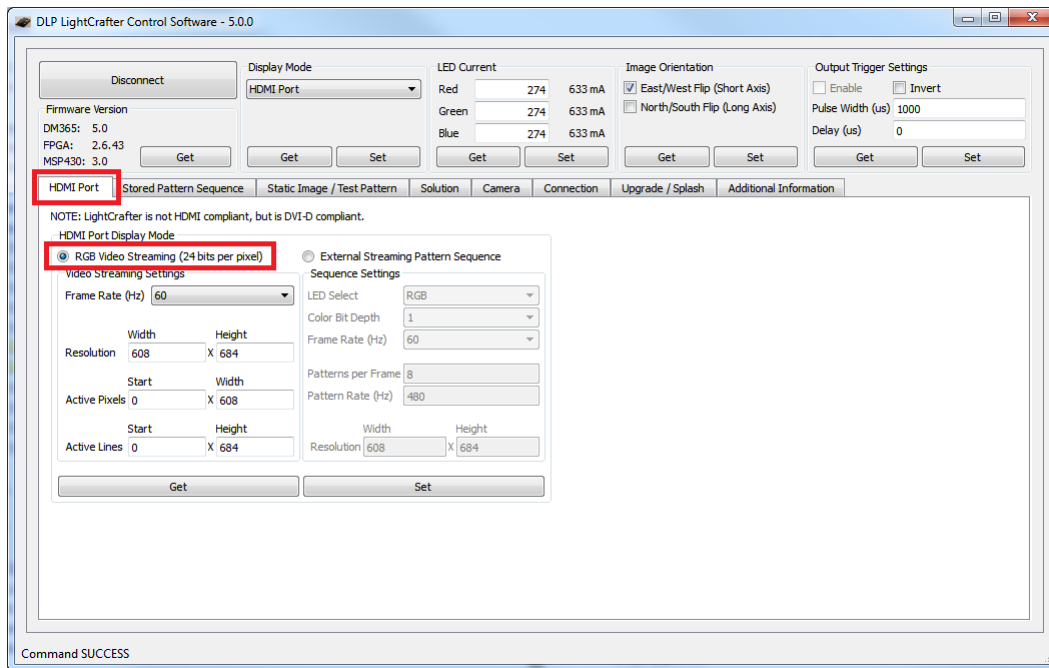

Figure 2-34. DLP LightCrafter GUI RGB Video Streaming Selected on HDMI Port Tab
3. Select "RGB Video Streaming (24 bits per pixel)" as shown in Figure 2-34.